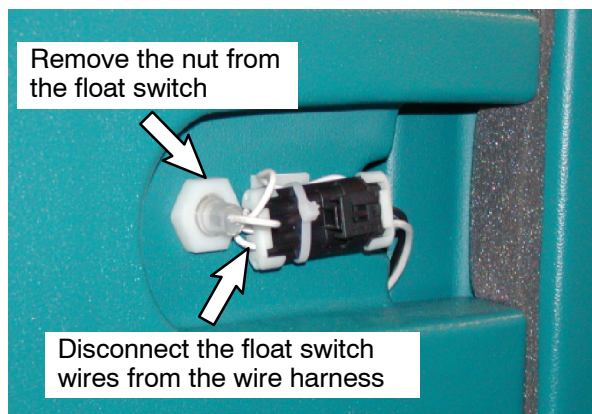
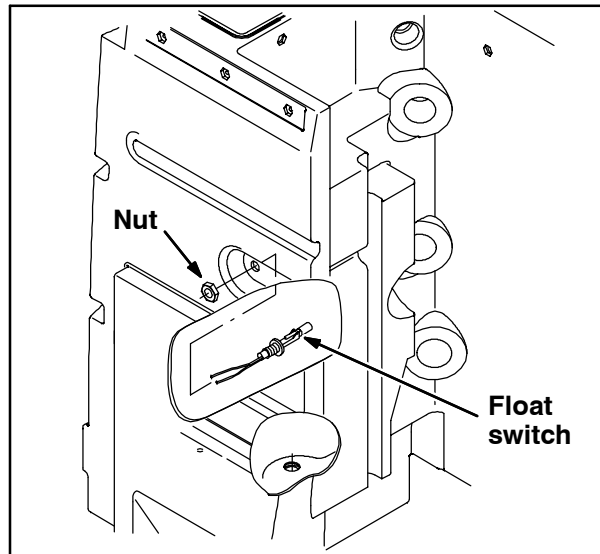

FIG. 1
FIG. 2
6. Disconnect the float switch wires from the wire harness. Refer to Fig. 1.
7. Remove the nut from the float switch and pull the float switch and guard (if equipped with a guard) out from the recovery tank. **Do not** discard the nut since it is needed to reinstall the float switch. Discard the guard. Refer to Fig. 1 and Fig. 2.
1. Orient the float switch so the narrow end of the float mechanism is pointed up. Refer to Fig. 2.